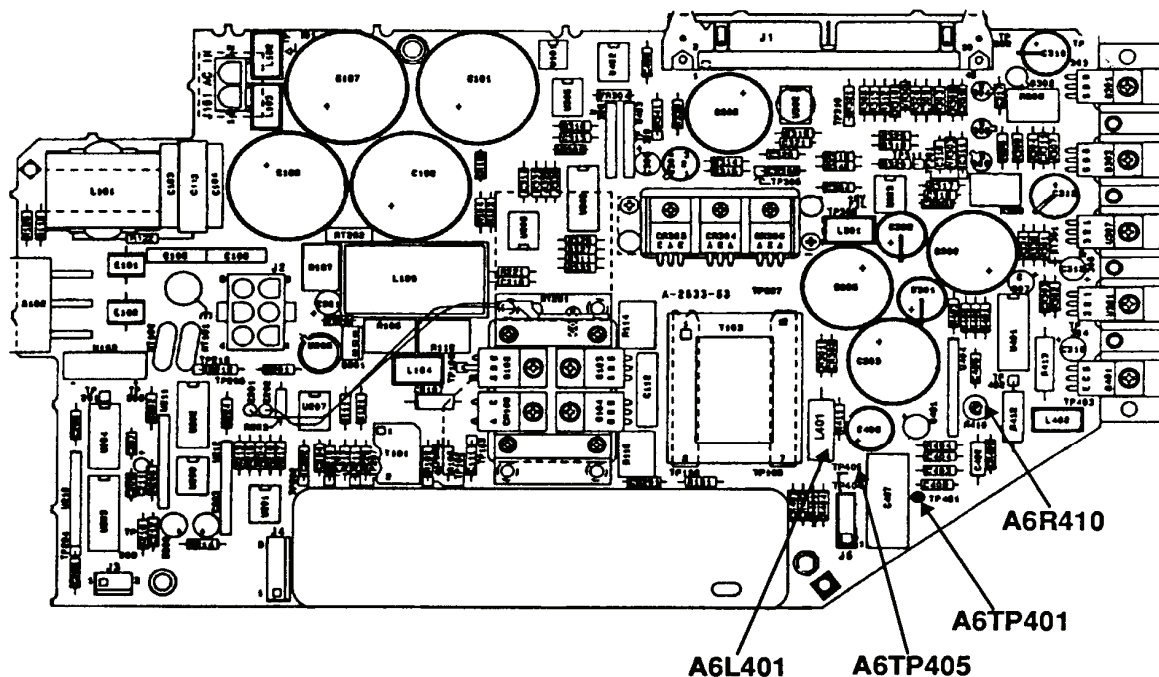

Figure 9. Power supply location sheet.
- (2) Remove A6 power supply cover.
- (3) Set multimeter to measure 1000V dc.
- (4) Connect multimeter **INPUT HI** to A6TP405 (fig. 9) and **INPUT LO** to A6TP401 (fig. 9).
- (5) Record dc voltage marked on A6A1 HV module (located at TI top).
- (6) Note the value of inductor A6L401 (fig. 9). If A6L401 (fig. 9) is 10 mH, perform (7) and (8) below. If A6L401 (fig. 9) is 20 mH, perform (7) and (9) below.
- (7) Press TI **LINE** switch to **ON**.
Perform (8) below **ONLY** if A6L401 (fig. 9) is 10 mH.
- (8) If multimeter does not indicate a dc voltage equal to 2 V above the dc voltage recorded in (5) above, perform **b** (1) below.
Perform (9) below **ONLY** if A6L401 (fig. 9) is 20 mH.
- (9) If multimeter does not indicate a dc voltage equal to the dc voltage recorded in (5) above, perform **b** (2) below.
- (10) Press TI **LINE** switch to **OFF**.
- (1) Adjust A6R410 (fig. 9) for a dc voltage equal to 2 V above the dc voltage recorded in (5) above (R).
- (2) Adjust A6R410 (fig. 9) for a dc voltage equal to the dc voltage recorded in (5) above (R).